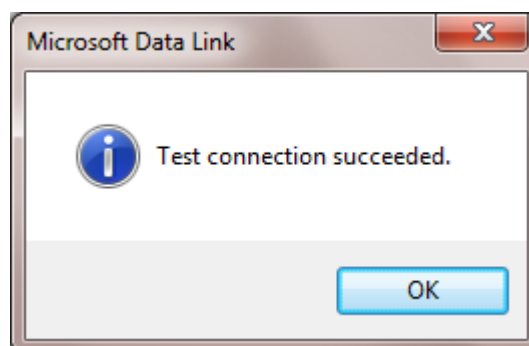

Fig. 3.3 – 7 Message about successful connection verification
*Note: If the English version of MDAC components is installed on the computer, English is used in the dialog boxes in Fig. 3.3 – 6 and Fig. 3.3 – 7 as well.*